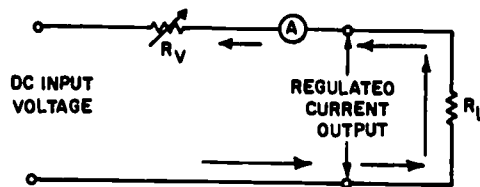

Fig 4-40. Current regulator.
Current regulators. You should now know how voltage regulators work to provide constant output voltage. In some circuits it may be necessary to regulate the current output. The circuitry which provides a constant current output is called a constant current regulator or just CURRENT REGULATOR. The schematic shown in figure 4-40 is a simplified schematic for a current regulator. The variable resistor shown on the schematic is used to illustrate the concept of current regulation. You should know from your study of voltage regulators that a variable resistor does not respond quickly enough to compensate for the changes. Notice that an ammeter has been included in this circuit to indicate that the circuit shown is that of a current regulator. When the circuit functions properly, the current reading of the ammeter remains constant. In this case the variable resistor (R_V) compensates for changes in the load or d.c. input voltage. Adequate current regulation results in the loss of voltage regulation. Studying the schematic shown, you should recall that any increase in load resistance causes a drop in current. To maintain a constant current flow, the resistance of R_V must be reduced whenever the load resistance increases. This causes the total resistance to remain constant. An increase in the input voltage must be compensated for by an increase in the resistance of R_V , thereby maintaining a constant current flow. The operation of a current regulator is similar to that of a voltage regulator. The basic difference is that one regulates current and the other regulates voltage.
9. In figure 4-40, when there is an increase in the load resistance (R_L), the resistance of R_y _____ to compensate for the change.